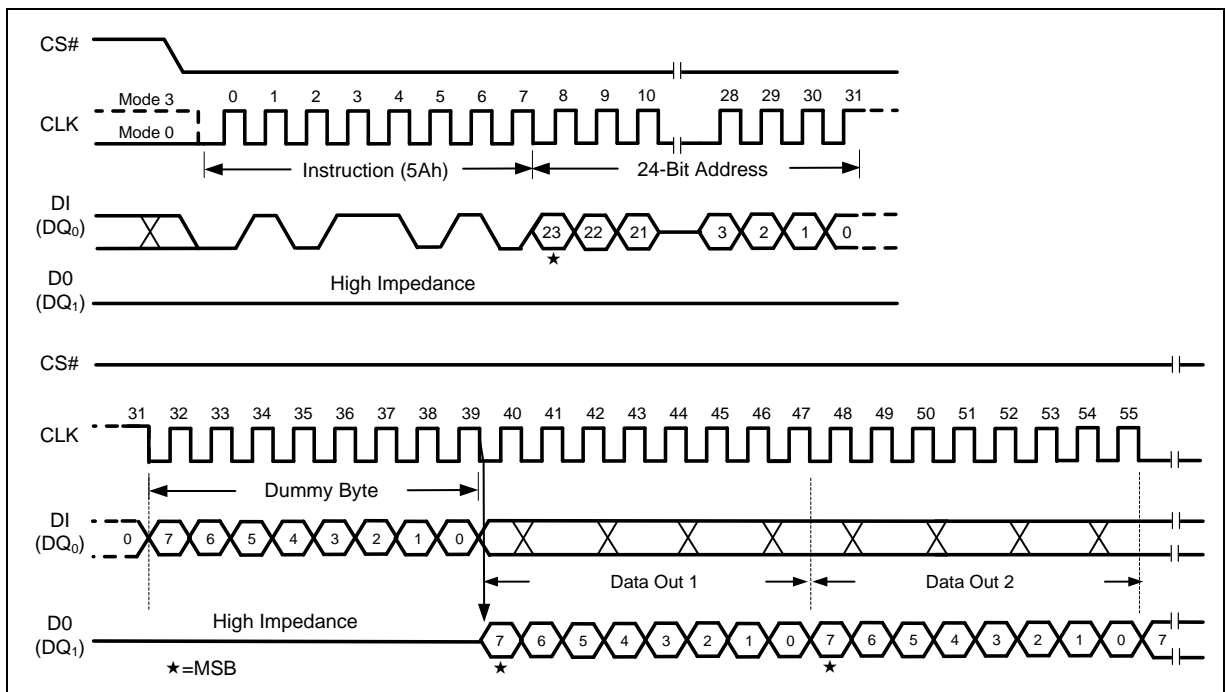

Figure 58 Read SFDP Register Instruction
The Read SFDP instruction is initiated by driving the /CS pin low and shifting the instruction code “5Ah” followed by a 24-bit address (A23-A0)(1) into the DI pin. Eight “dummy” clocks are also required before the SFDP register contents are shifted out on the falling edge of the 40th CLK with most significant bit (MSB) first as shown in Figure 58.